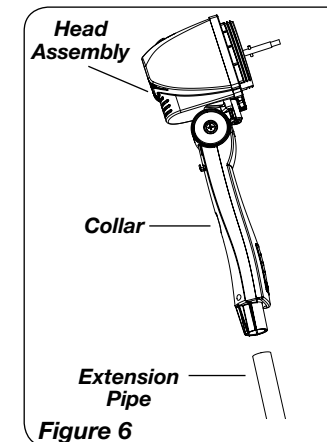

Figure 6
1. Place **Head Assembly** with **Collar** onto **Extension Pipe**. (*Figure 6*)